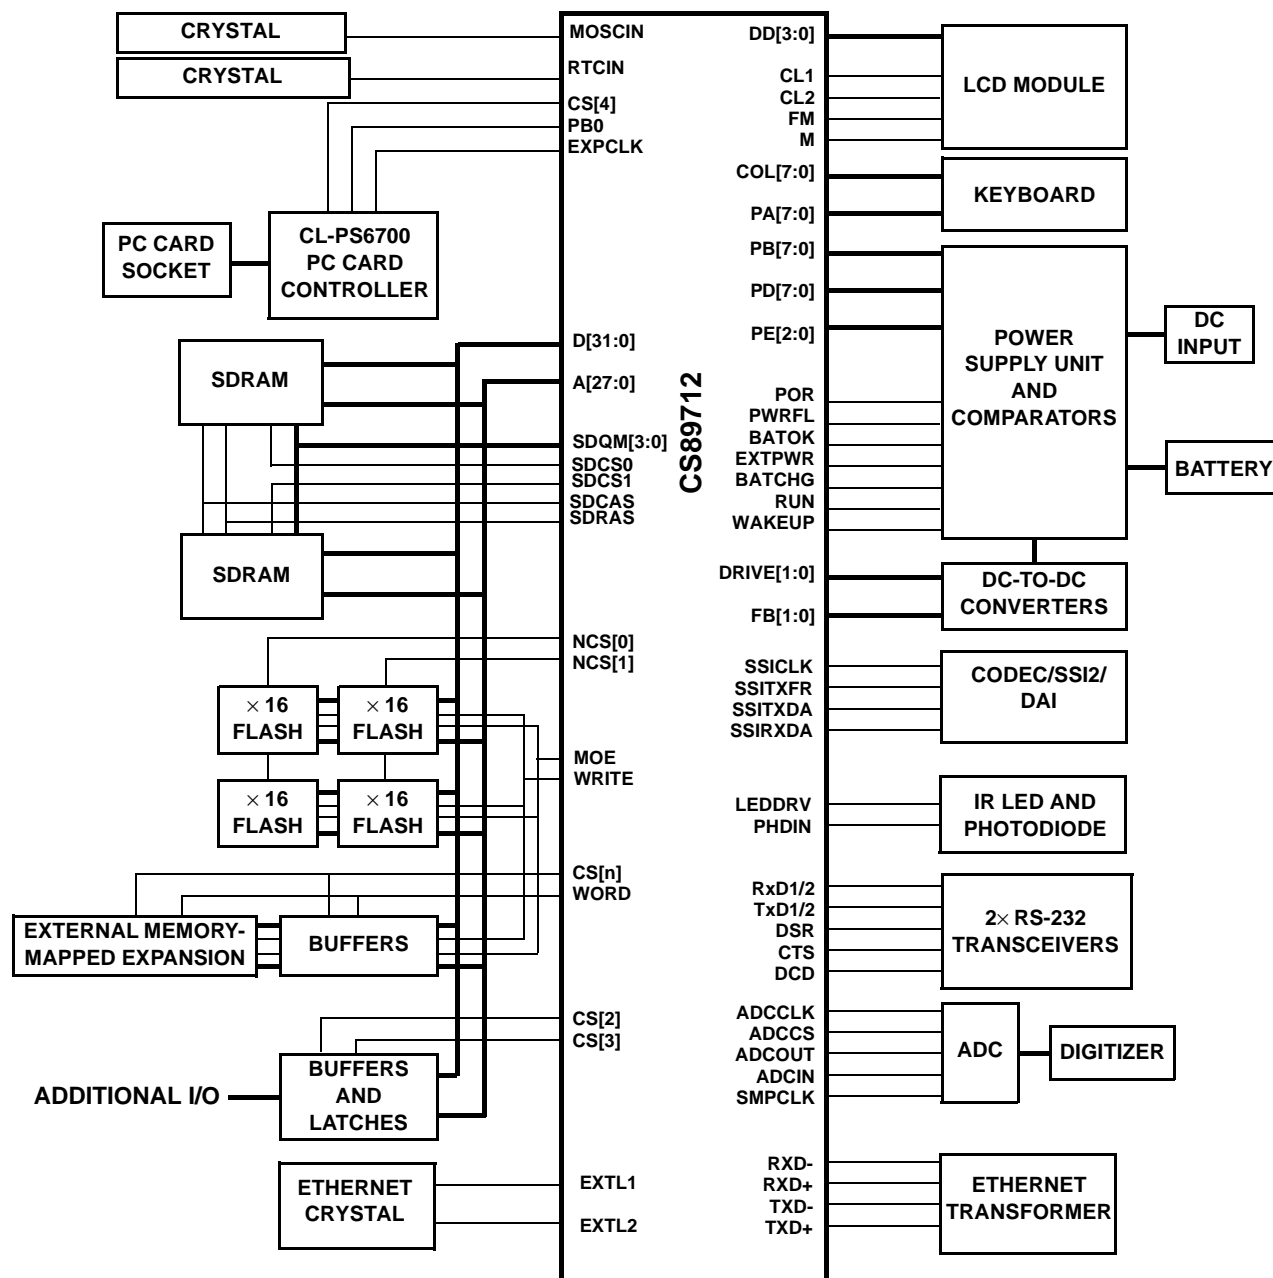

Figure 1. A CS89712-Based System
- A maximum configured system using the CS89712 is shown in Figure 1. This system assumes all of the DRAMs and ROMs are 16-bit wide devices. The keyboard may be connected to more GPIO bits than shown to allow greater than 64 keys, however these extra pins will not be wired into the WAKEUP pin functionality. Note that only one of the CODEC, SSI2, or DAI interfaces may be used at a time.